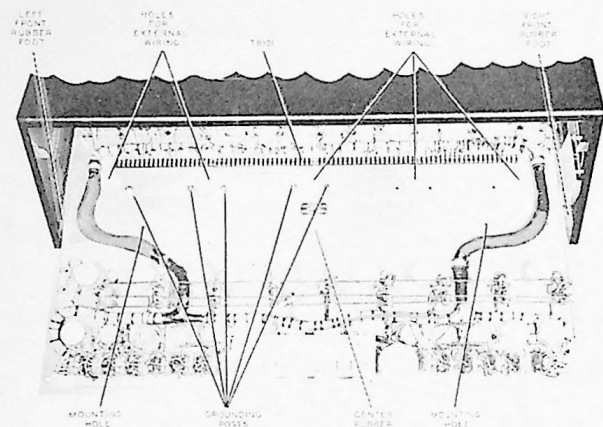

Figure 2-5. 212E-1 Broadcast Console, Mounting and Wiring Detail
2.2.4.1 212E-1 BROADCAST CONSOLE. Refer to figures 2-5 and 7-2. Five 1-1/2-inch-diameter holes are provided in the console base plate for the entry of external wiring. The holes are equally spaced and located directly in front of the terminal strip. Two 1/4-inch diameter holes and hole mounting center rubber foot, located on front of the wiring entry
openings (refer to figure 2-5), may be used when the console is bolted to the desk or table top. Three spacers are supplied for bolting down the console.